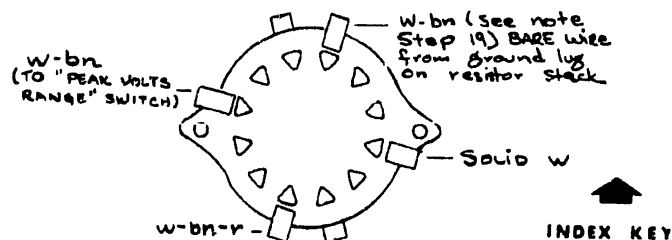

FIG. 6
- () 19. Install the new POLARITY switch (from kit) and solder the wires to it, as shown in Fig. 6.